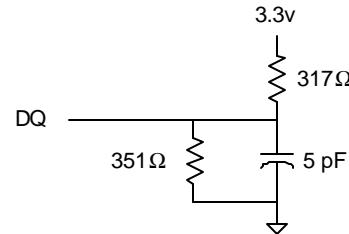

Fig. 2 OUTPUT LOAD EQUIVALENT
6. Output loading is specified with $CL=5\text{pF}$ as in Fig. 2.